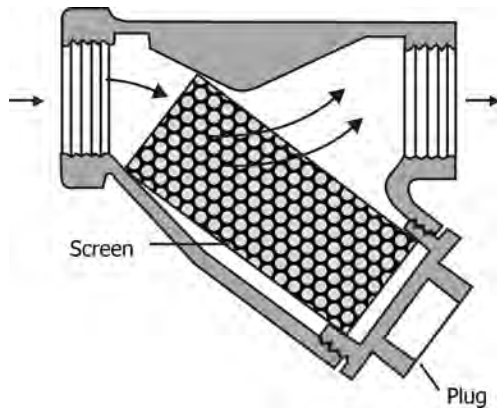

FIGURE 3.4 Strainer.
- Strainer is a pipe fitting used to filter flowing fluids from solid contaminants such as corrosion products and other particulates. The fluid passes through a screen and solids remain in the leg of the screen basket, which are to be removed occasionally by opening a plug fitted at the bottom of the strainer. Suction side of centrifugal and reciprocating pumps is normally provided with strainers. Figure 3.4 shows a typical strainer.